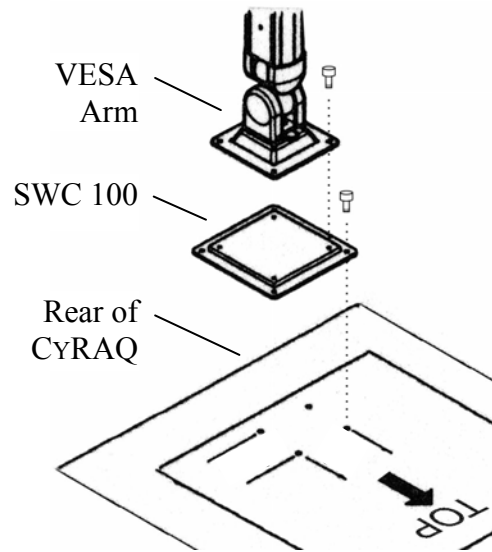

Figure 15: Mounting Arm to Display
- 5) Carefully place display on the bench top with screen facing down, as seen in Figure 15.